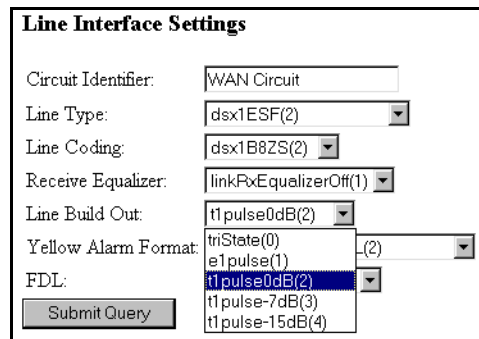

Figure 47. Line Build Out pull-down menu with t1pulse0dB(1) selected
- From the *Line Build Out* pull-down menu (figure 47) select *t1pulse0dB(1)*.